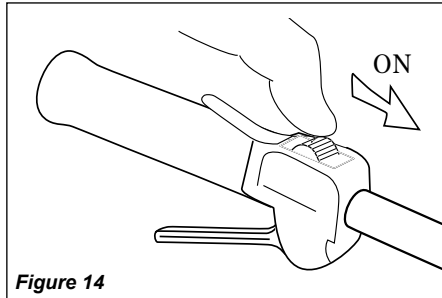

Figure 14
1. Slide the ignition switch to the “I” position. See Figure 14.